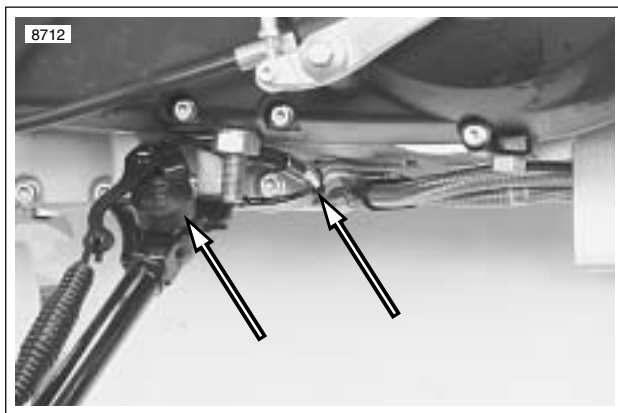

Figure 3-57. Sidestand Assembly and Switch with Cable Strap
36. See Figure 3-57. Install sidestand assembly. See 2.43 SIDESTAND ASSEMBLY.